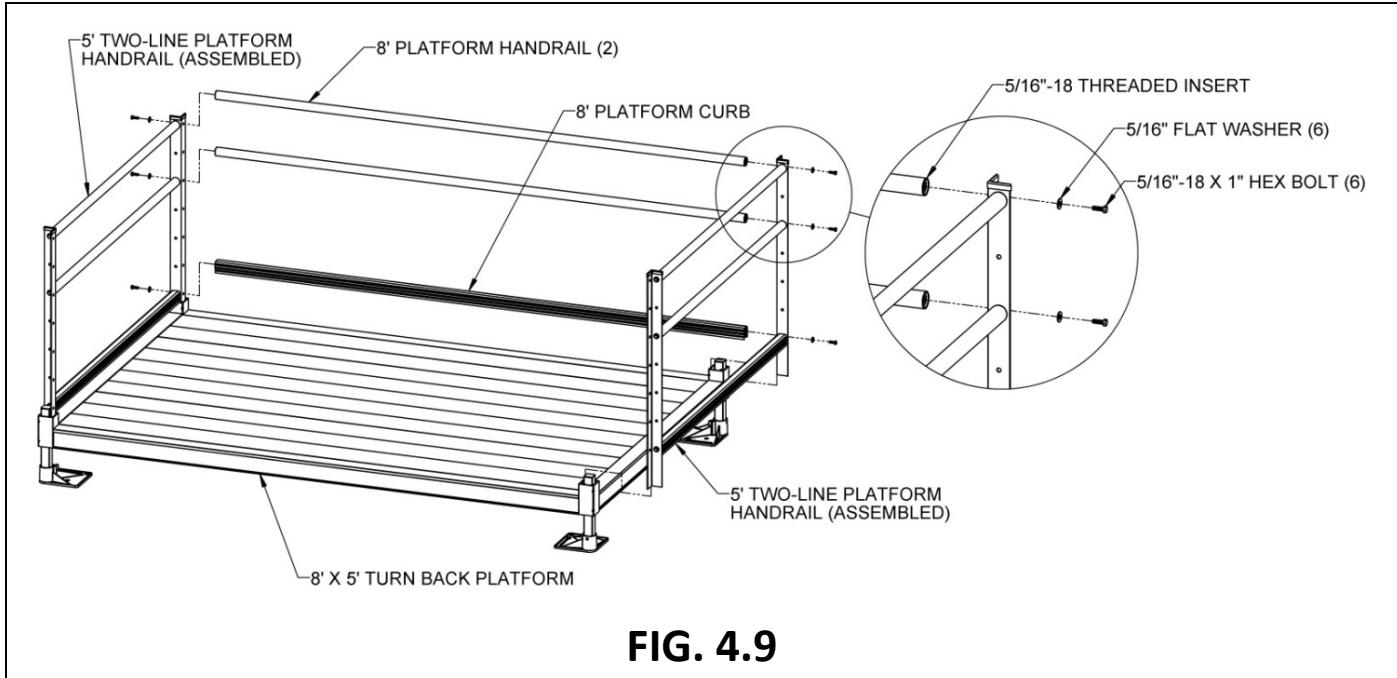

FIG. 4.9
- 4.5.3. Assemble the 8' platform handrails and curb between the two 5' platform handrails by threading 5/16"-18 x 1" long hex bolts through the holes in the 5' platform posts which align with the 5' handrails and curb and into the threaded inserts in the ends of the 8' handrails and curb. Tighten all fasteners securely (FIG. 4.9).